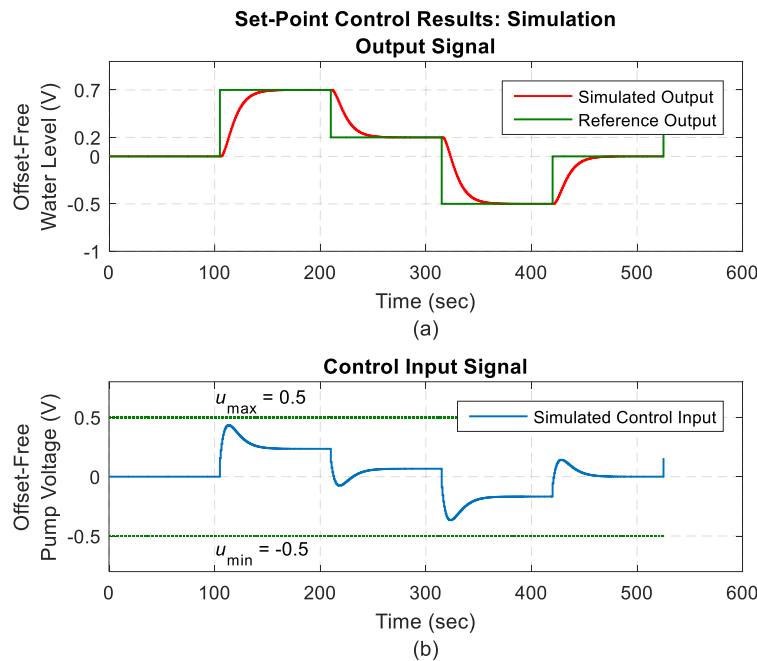

Fig. 3. Set-point control response, (a) Output response compared with reference output, (b) Control input.
- Simulate the closed-loop system with zero initial conditions to verify your feedback gain and control system design. Plot the output response with reference output and control input similar to Fig. 3. This figure shows the results of the same set-point control in this exercise for the example model obtained from `SysIdenData_StudentVersion.mat` data with closed-loop eigenvalues of $[0.92 \ 0.92]$. You can use `dcgain` function to find DC gain of the closed-loop transfer function, or directly calculate it. You can use `lsim` function to simulate your system or build the model in Simulink. Comment on transient and steady-state responses (0.5 marks)
- Examine the effect of disturbance acting on the input for set-point control using non-deadbeat feedback control as you designed in lab exercise 2. Comment on the ability of state feedback control in disturbances rejection by plotting the simulation results similar to Fig. 3.
- Examine robustness of the control system by adding uncertainty to the system model parameters by up to 5% for set-point control using non-deadbeat state feedback controller as you designed in lab exercise 2. Remember that you DO NOT need to change feedback gain. Only apply the same feedback gain to the modified system model. You can use `rand` function in MATLAB as you used in Lab 1 pre-lab exercise to generate random numbers between ± 0.05 , and then create new model parameters that satisfy the inequality in Eq. (7). Comment on the ability of state feedback controller in robust behaviour against uncertainty by plotting the simulation results similar to Fig. 3.